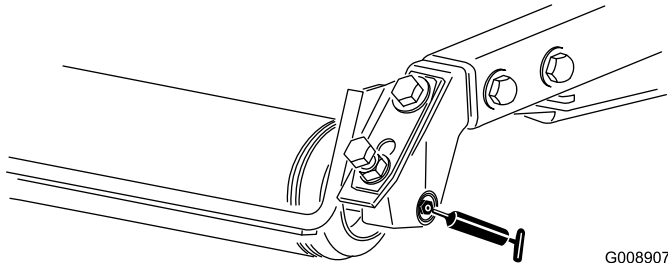

Figure 38
- Rear-roller bearings (2 per cutting unit) (Figure 38)